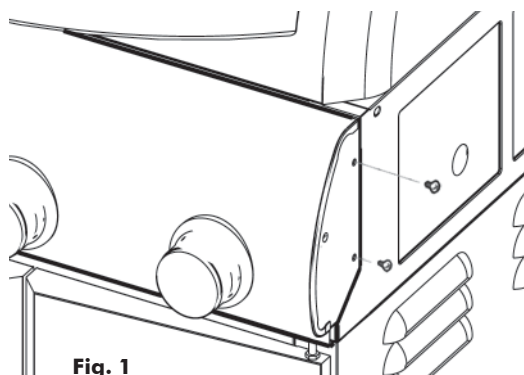
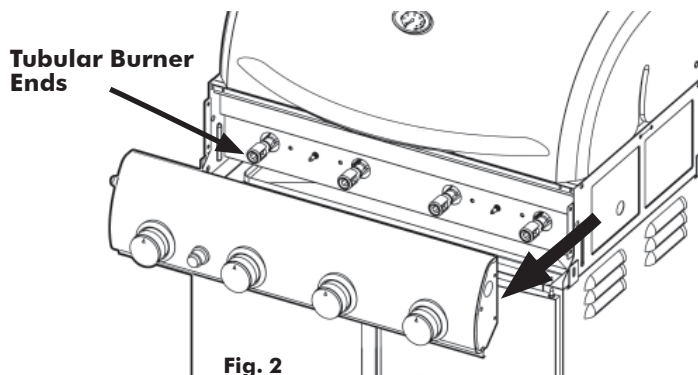

Fig. 1
Fig. 2
4. Figures 1, 2, 4 and 4a show the grill at assembly step 9, prior to attaching the Side Tables, and illustrate the initial steps in the "FIRST TIME USE LEAK TEST".
Detach the Control Panel from the Grill Body/Firebox by removing the two 5/32" Bolts from each end. (Fig. 1) Gently pull the Control Panel away from the Body until Valves disengage from the Tubular burner ends. (Fig. 2) Support the Control Panel to keep tension off of the igniter wire leads or detach the wire leads from the Starter Button module.
10. Re-attach the wire leads to the Igniter Button. Replace Control Panel around flanges at Bowl ends and align bolt holes on each side. Replace and retighten all bolts. (Fig. 1)